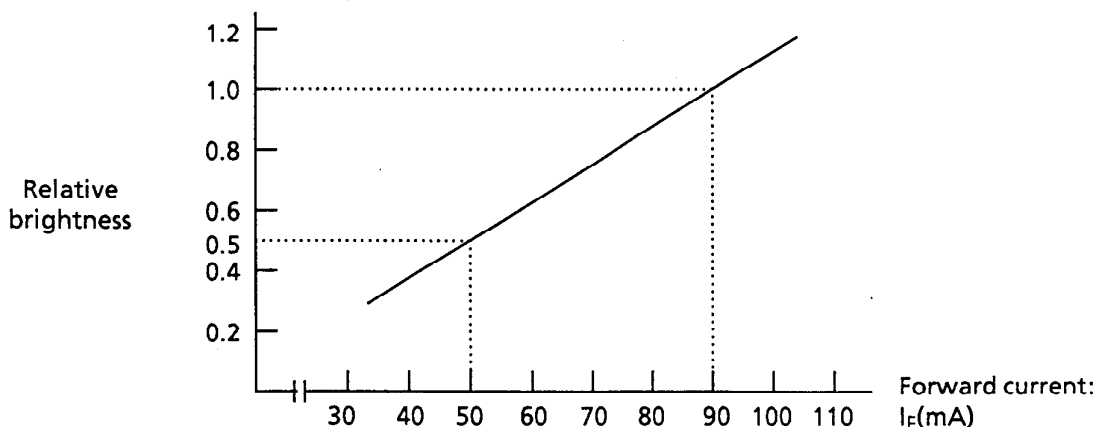

Figure 12 Forward Current-Brightness Characteristics ( $T_a = 25^\circ\text{C}$ )
For this resistance value, the forward current becomes lower than 50 mA at 25°C. The surface brightness of the LED backlight varies with the forward current. See Figure 12. Compared with 1.8 (4) brightness ( $I_F = 90$  mA), the brightness is about 40%.